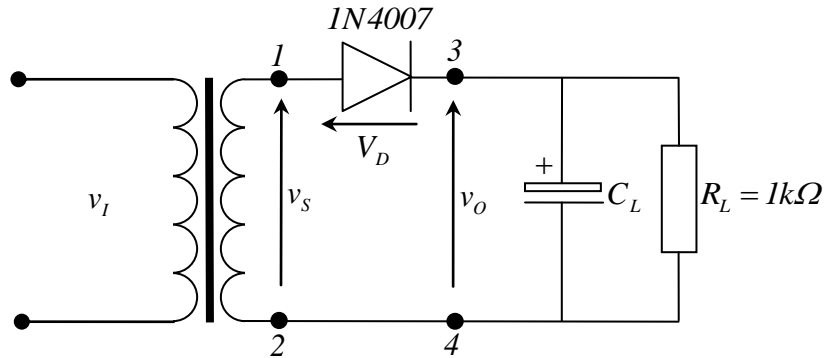

Figure 2. Half-wave rectifier with an RC filter
If a capacitor is added in parallel with the load resistor of a half-wave rectifier to form a simple filter circuit (Figure 2), we can begin to transform the half-wave sinusoidal output into a DC voltage. The voltage across the capacitor follows the initial portion of the signal voltage (the positive half of the output sine wave). When the signal voltage reaches its peak and begins to decrease, the voltage across the capacitor also starts to decrease, which means the capacitor starts to discharge. The only discharge current path is through the resistor. If the RC time constant is large, the voltage across the capacitor discharges exponentially with time. During this time period, the diode is cut off.
- Assemble the circuit without the capacitor as shown in Figure 2 and apply an AC voltage of $V_S = 6V$ to terminals 1 and 2.
- Connect the capacitors $C_{L1} = 10\mu F$, $C_{L2} = 47\mu F$ and $C_{L3} = 100 \mu F$ (Polarity must be correct) to terminals 3 and 4 (parallel to the load resistor) as in Figure 2 one after the other.